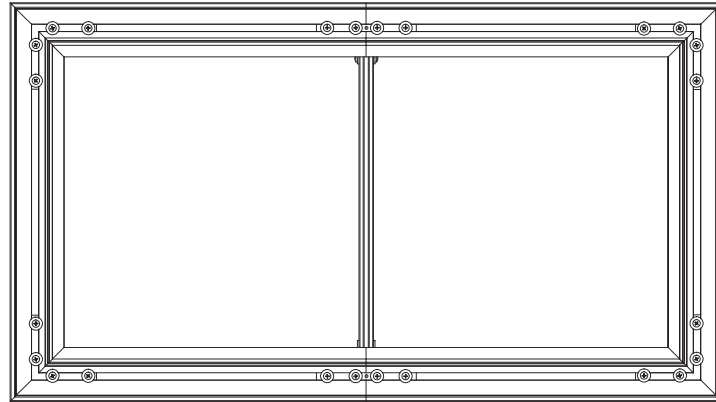

Figure 3
2.4 Assemble the four inner frames and struts as shown in the figure below, and lock them with screws after the inner frame is assembled (Figure 2, Figure 3);